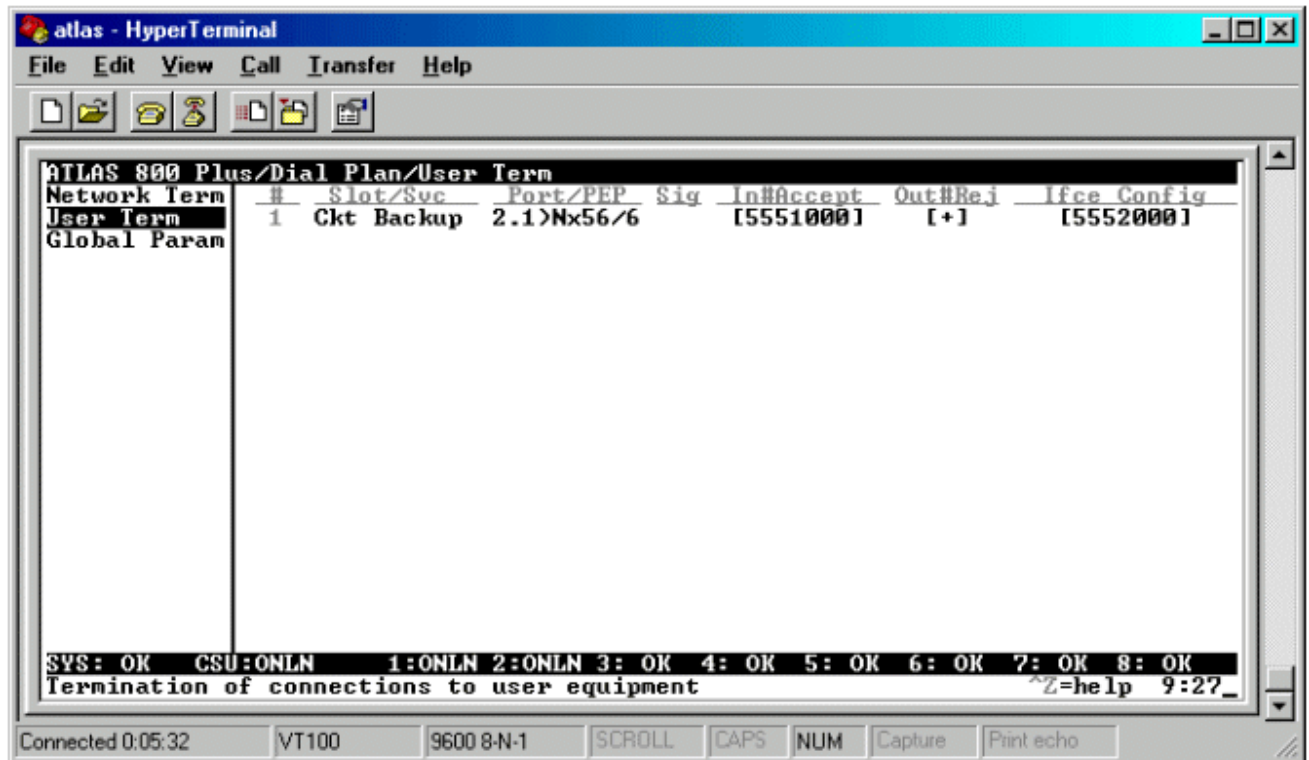

Figure 4
- Next, you will set up the backup entry in the **User Term**. Use the arrows on your keyboard to navigate the cursor to the **User Term** and press enter. For the **Slot** field, you will select **CKT Backup**. The **Port** field will only allow you to select V.35 or USSI ports that were entered on the **FROM SlT** field in the **Dedicated Map**. Select the appropriate port that you wish to use. This is the port that will be backed up if a failure occurs on the T1. Figure 4 shows the entry for the **Circuit Backup**.